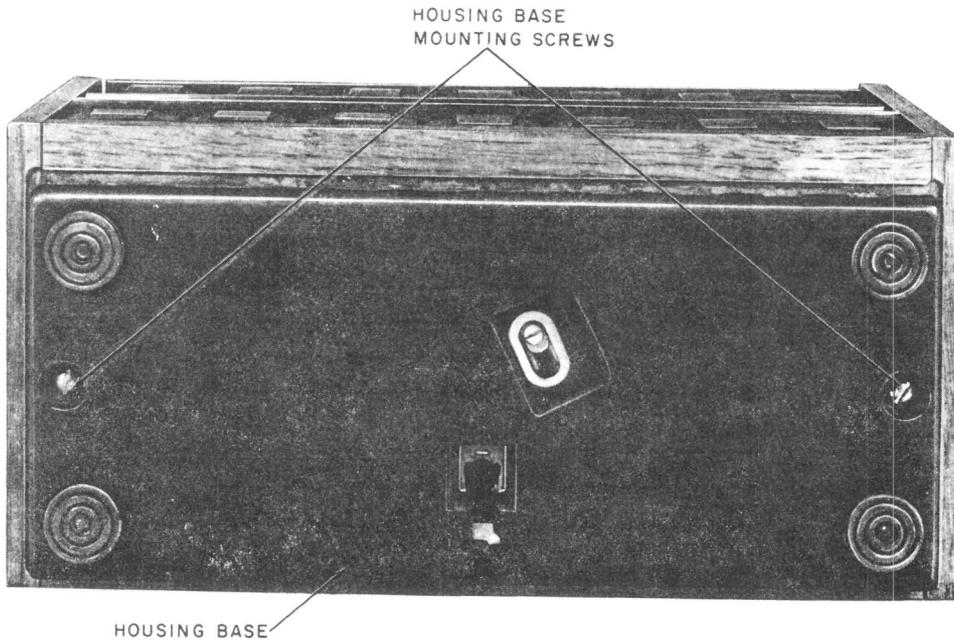

Fig. 7—Removing Metal Housing Base (910A or 2910A Telephone Set)
- (3) Unplug the mounting cord from the base of the telephone set.
- (4) Remove the two screws, one at each end, from the metal housing base of the wooden box (Fig. 7).
- (7) Reassemble metal housing base to the box end brackets. See Fig. 7 and 9.